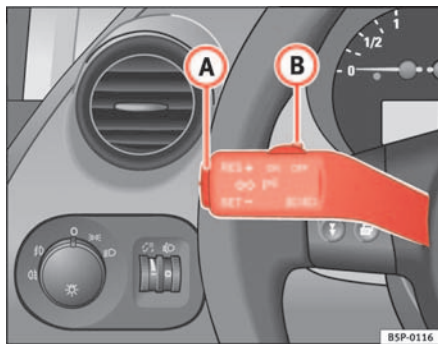

Fig. 141 Turn signal and main beam lever: switch and rocker switch for CCS
- Press the lower part of the rocker switch briefly when you have reached the speed you wish to set **SET** ⇒ fig. 141 **(A)** once.